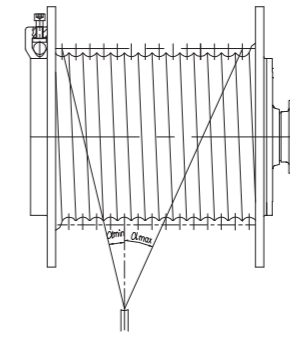

图4 Figure 4
4.3 为了保证钢丝绳正常缠绕,要求绳偏折角α维持在允许范围之内(图4),应注意以下几点:
4.3 To achieve acceptable rope winding, the deflection angle α must be kept in the allowable value (figure 4) At-tent the following points: